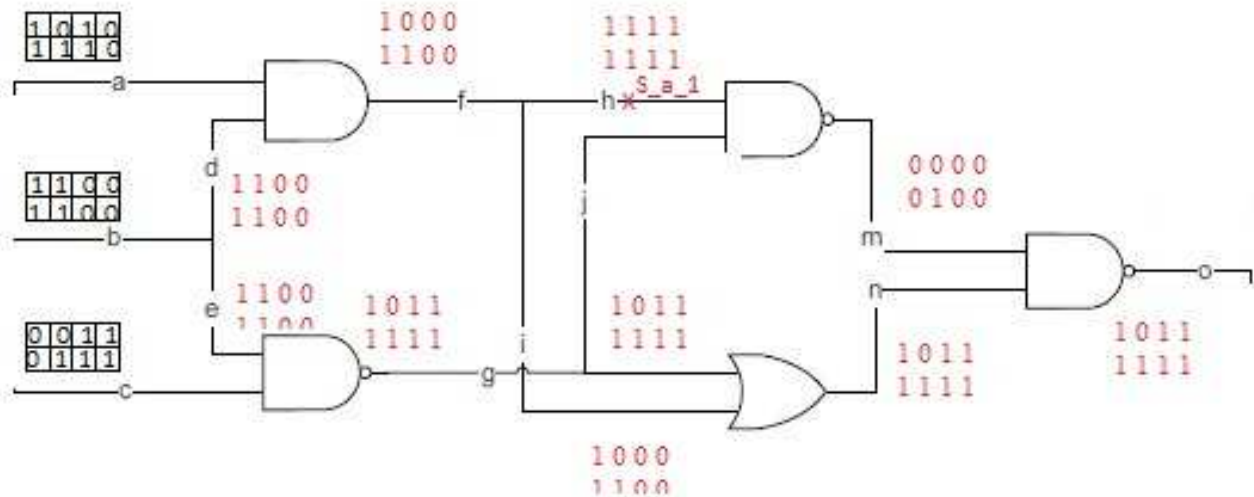

Figure 1: Parallel pattern single fault simulation
- For the circuit shown in the Figure 1, perform Parallel pattern single fault simulation targeting the fault h stuck-at-1. You are given 4 vectors to simulate and the vectors are encoded as 11 for 1, 00 for 0 and 01 for X.
3. For the same circuit shown in figure 1, perform deductive fault simulation to determine what faults will be detected at the primary output h for the test vector $a=1\ b=0\ c=1$.